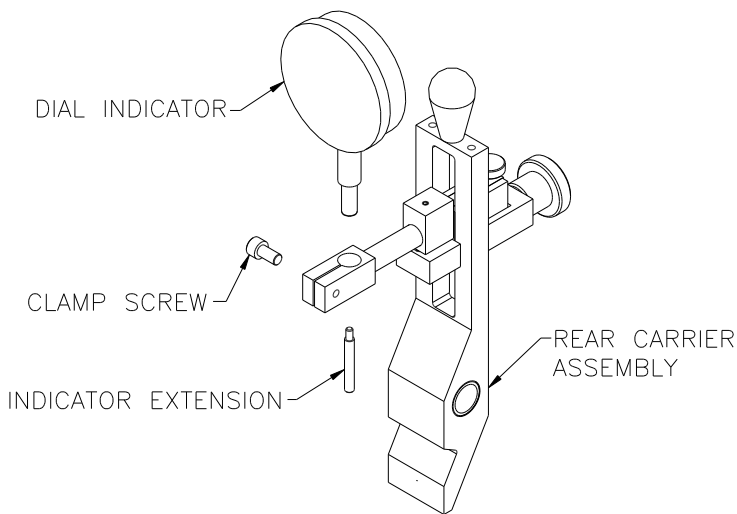
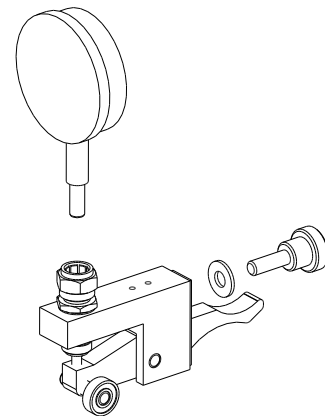

Figure 8. Rear Vertical Carrier with Dial Indicator Holder
Figure 9. Roller Checking Attachment
6.0 Rear Vertical Carriers – (See Figures 8 and 9)
All Model H and HL Concentricity Gage Models come standard with a Rear Vertical Carrier. These Carriers also offer various positions along the Z-axis, tilt-away for loading and unloading of parts and the option to use a Dial Indicator instead of a Test Indicator. They can be supplied in a variety of configurations. Figure 8 shows a standard Rear Vertical Carrier Assembly with a Dial Indicator Holder sub-assembly. The Carrier can also be provided with a Roller Checking Attachment (See Figure 9).